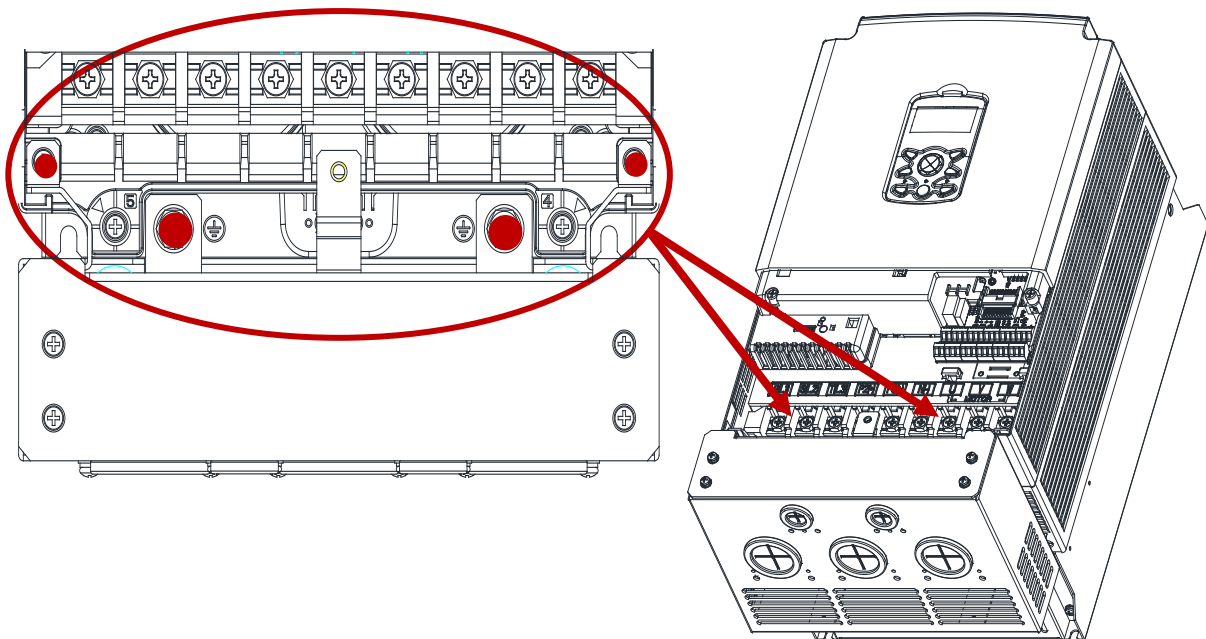

Figure 8. Install
- ② Fasten the Conduit Option to fit on the ground terminals and both ends (4points) of the product using the prescribed bolt as shown in the Figure 8.